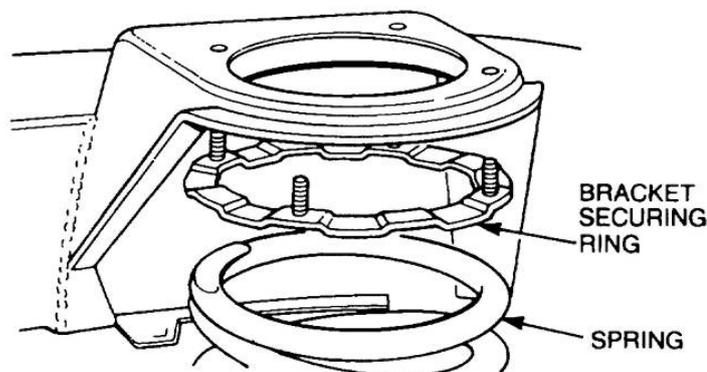

Figure 118 Removal of the Front Spring
- g. Lower the axle on the side the spring is to be removed. Remove the spring and bracket securing ring (Figure 118).